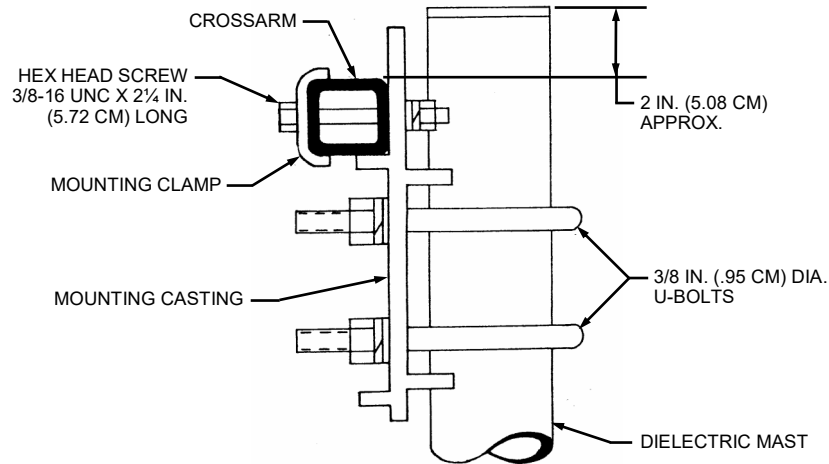

FIGURE 4
1. To ground the antenna attach a ground wire under the head of the 3/8-16 x 2 1/4 in. long hex head screw at the mounting casting (see Figure 4). Run the ground wire down the mast to a ground rod driven at least 4 feet into the ground. If it is preferred to run the ground wire inside the mast, drill a hole through the mast cap. Run the ground wire through the hole and weatherproof with RTV or equivalent compound.
1. Assemble the mounting casting to the dipole-fitting side of the crossarm as shown in Figure 4, using the mounting clamp and the 3/8-16 x 2 1/4" long hex head screws.